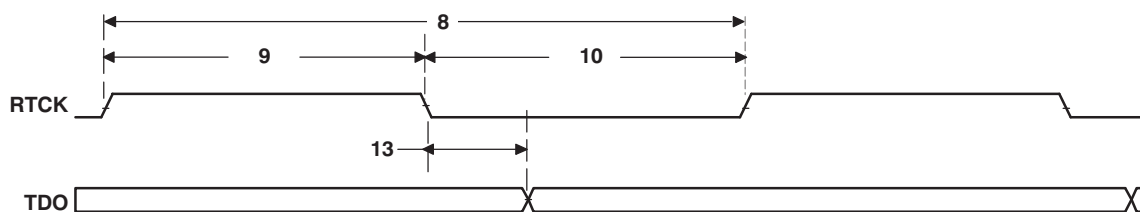

**Figure 5-51. JTAG Input Timing**
(1) IEEE Standard 1149.1-1990 Standard-Test-Access Port and Boundary Scan Architecture.
**Table 5-48. Timing Requirements for JTAG Test Port (see Figure 5-51)**
(see Figure 5-51)